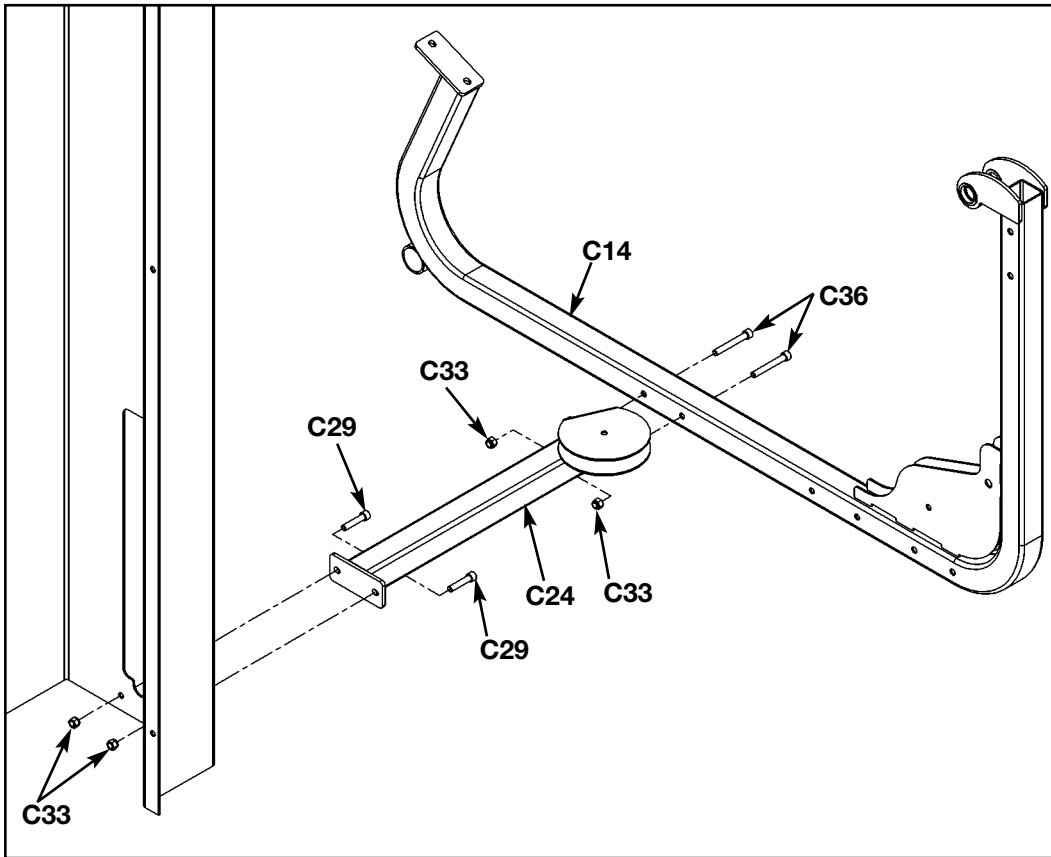

Figure 6
**3. Attach leg press frame to main frame assembly** (see steps 3A - 3C and Figure 6).
- C.** Attach frame to column as shown in Figure 6, using two SHCS .375-16 x 1.25 (#C29) and two nylon locknuts (#C33).